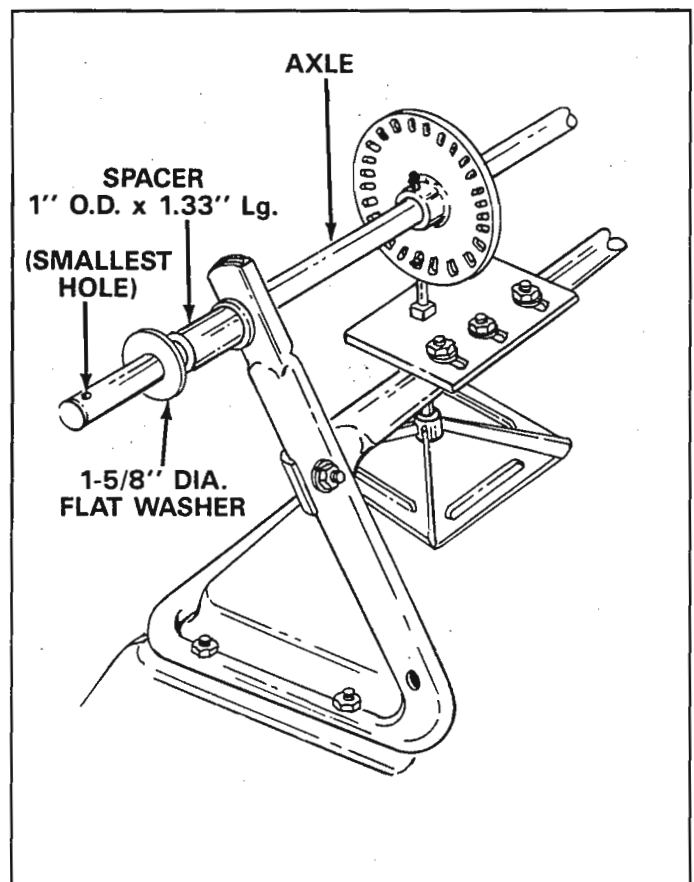

FIGURE 4
- 3. Assemble the 1" O.D. x 1.33" long spacer and one 1-5/8" diameter flat washer to end of axle, having the smallest hole. See figure 4.